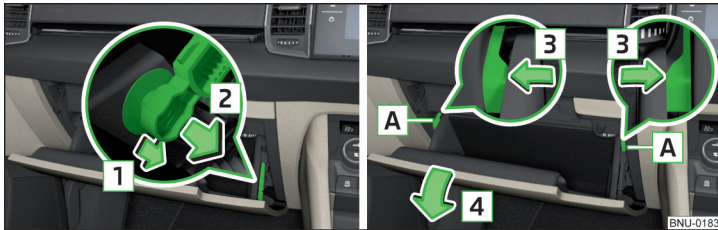

Fig. 342 Storage compartment on the front passenger side
- › Unlock the brake rod in the direction of arrow **1** and remove in the direction of arrow **2** » Fig. 342.